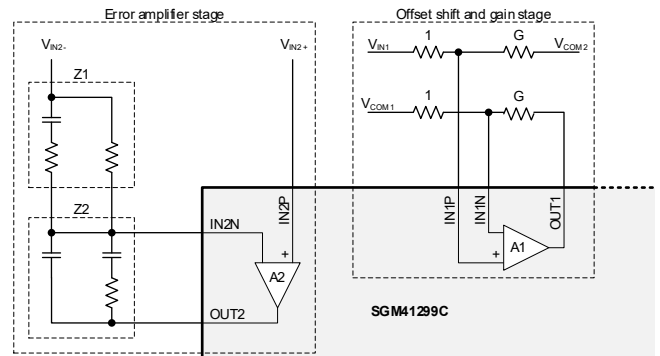

Figure 11. Using SGM41299C Amplifiers
Figure 11 shows an applicable circuit in which A2 is used to make an error amplifier with external compensation network Z1 and Z2, and A1 is used to make a gain (G) stage with level shifting from V_{COM1} at input side to V_{COM2} at output (OUT1). The temperature setting can be fed into either V_{IN2+} or V_{IN2-} and the temperature sensor (for example NTC) can replace one of the four resistors.